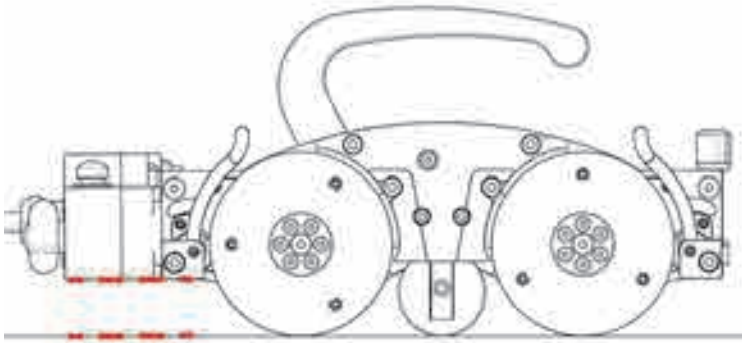
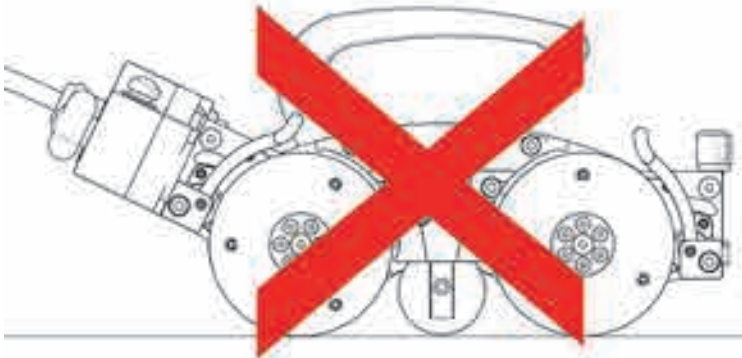

Figure 4-13 Correct umbilical mount alignment
Figure 4-14 Incorrect umbilical mount alignment
5. If you are scanning at heights greater than 2 m (6 ft), set the umbilical so that it is parallel to the scanning surface. Do not have the umbilical pivoted away from the inspection surface (see Figure 4-13 on page 102 and Figure 4-14 on page 102).